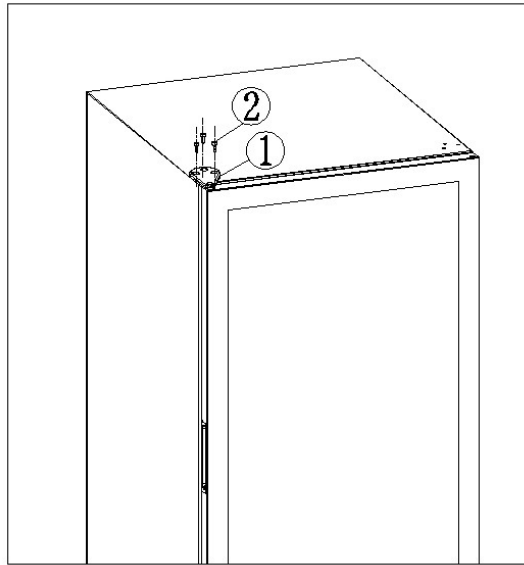

Figure 4
4) Install the door body in the reverse order of dismantling the door, install the upper door hinge in the screw hole on the other side of the top of the box, adjust the level of the door body, lock the screws, and complete the replacement of the door opening direction. See Figure 4.